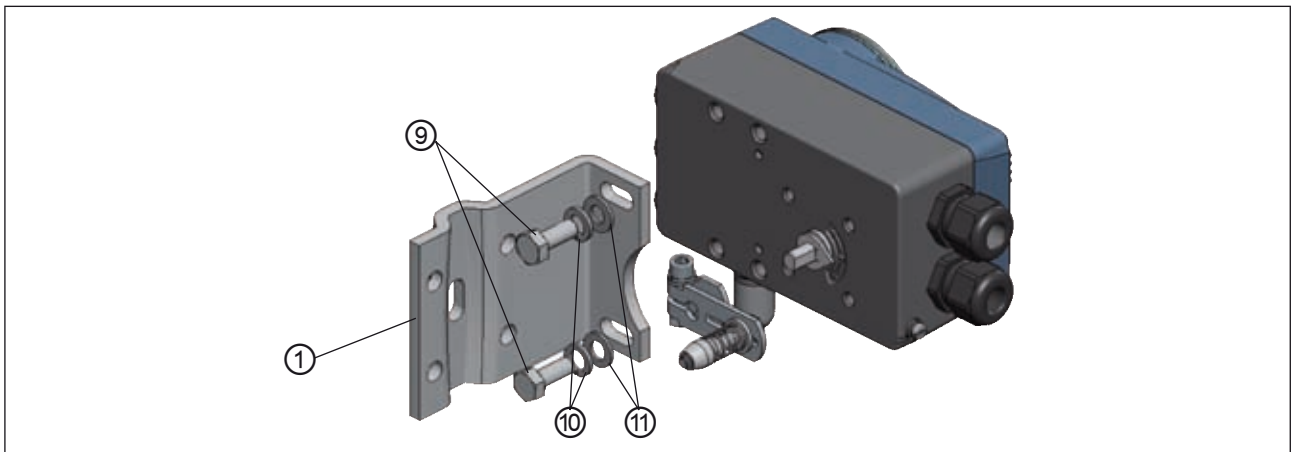

Fig. 16: Attaching mounting bracket
→ Attach mounting bracket ① to the back of the positioner with hexagon bolts ⑨, circlip ⑩ and washers ⑪ (see Fig. 16:).